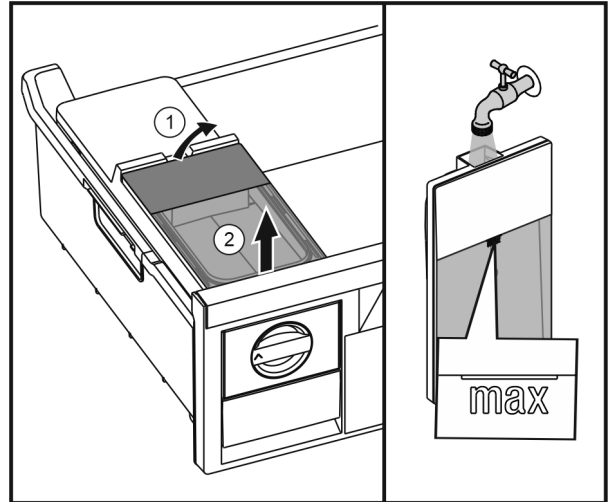

Fig. 37
- ▶ Lift up the water tank at the rear *Fig. 37 (1)* and take it out upwards *Fig. 37 (2)*.